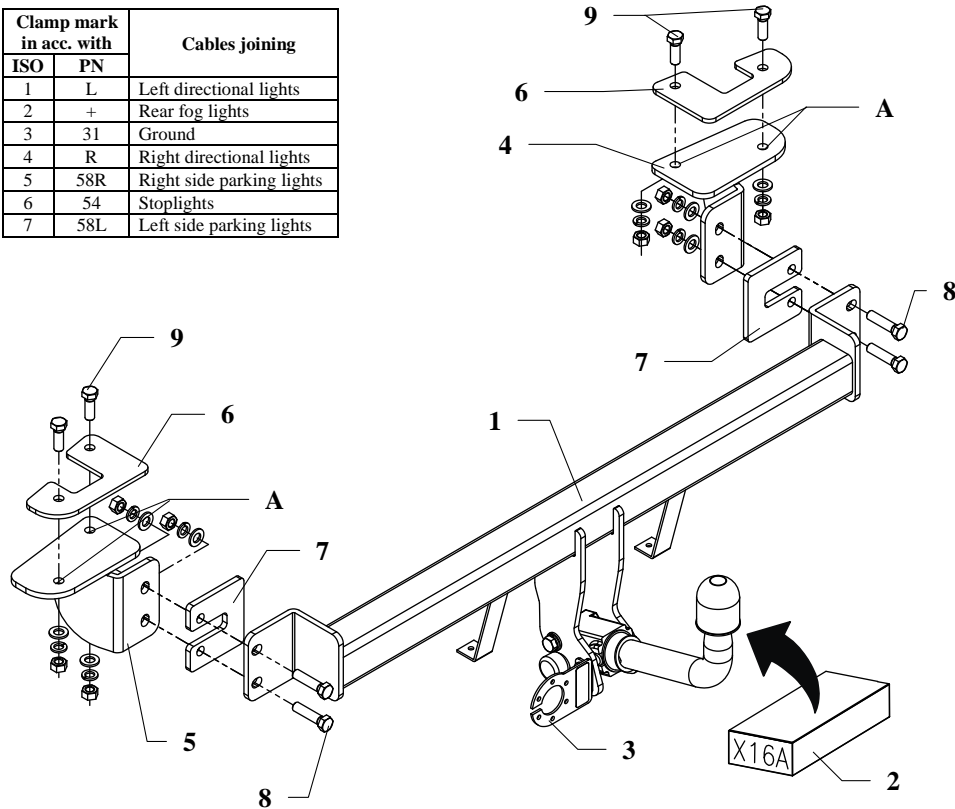
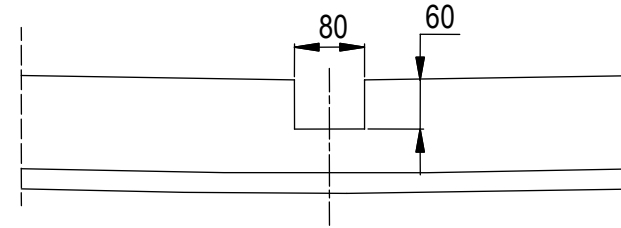

Fig.1
Fig. 2
3. According to fig. 1 fix loosely brackets (pos. 4 and 5), use fish-plates (pos. 6).
4. To rear side of car fix the main bar of the towing hitch (pos. 1) using fish-plates (pos. 7). Fish-plates (pos. 7) should be placed between rear side of car and main bar of towing hitch.
5. Install the bumper (without filling) after its cutting – see fig. 2.